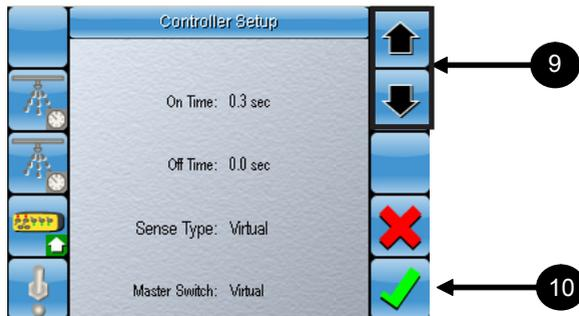

Figure 2-15. Set the Sense Type
10. Select  (figure 2-15) to confirm your selection